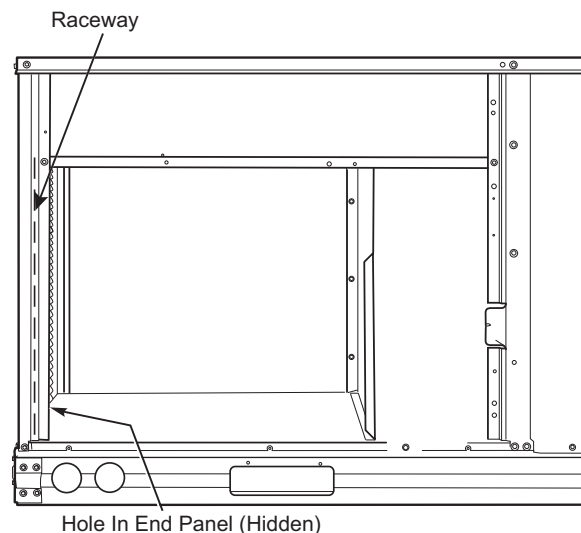

Fig. 28 — Field Control Wiring Raceway
The 50FE unit requires an external temperature control device. This device can be a thermostat (field-supplied) or a SystemVu™ controller (available as factory-installed option for use on a Carrier Comfort Network® or as a stand alone control). All field added wire must comply with UL and local NEC standards. See Unit without Thru-Base Connection Kit on page 20 and use routing path shown in Fig. 28 to help with compliance as needed.
Pass the thermostat control wires through the hole provided in the corner post; then feed the wires through the raceway built into the corner post to the control box. Pull the wires over to the terminal strip on the upper-left corner of the Unit Control Board. See Fig. 28.
2. Feed wires through the raceway built into the corner post (refer to Fig. 28) to the 24-v barrier located on the left side of the control box. The raceway provides the UL-required clearance between high-voltage and low-voltage wiring.